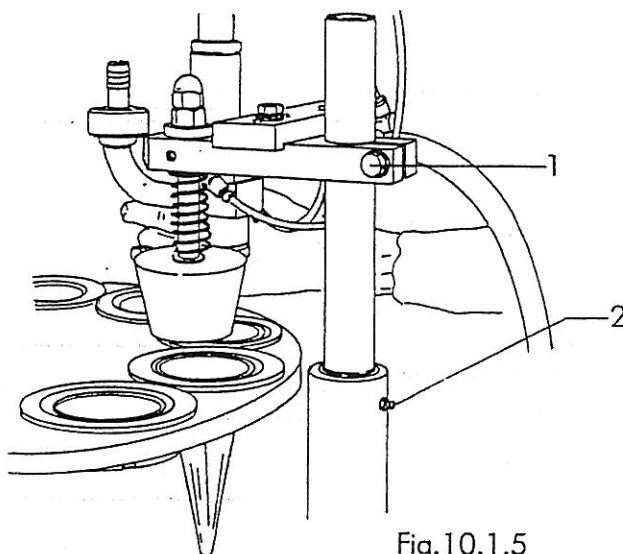

Fig.10.1.5
- loosen nut 1 fig. 10.1.5 and adjust the height of the unit ensuring that the concentricity of the gauge in relation to the cone placed in the mould is maintained. Lock nut 1 fig. 10.1.5;
Stations 3 and 4 are not used for the "cup" and "push-up" cycles so that it is possible during these cycles to move the station so that it does not interfere during the cycle. Loosen nut 1 fig. 10.1.5, rotate the station to out of service position and tighten the nut.
- Loosen screw 1 fig. 10.1.5;